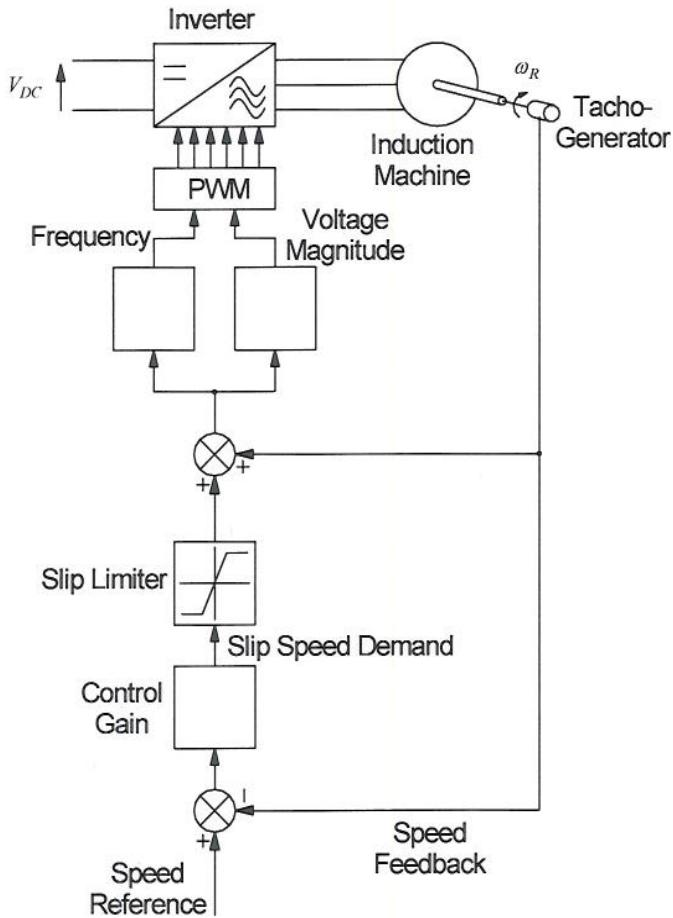

Figure Q6
- (a) Figure Q6 shows a slip-compensated speed control scheme for an induction machine. Describe the operation of the system including the role of the slip speed signal, the role of the slip limiter and the how the frequency and voltage commands for the inverter are determined.
- (c) The drive system in Figure Q6 will regenerate on occasion. Describe what arrangements should be made in the DC-link circuit to facilitate this. [5]